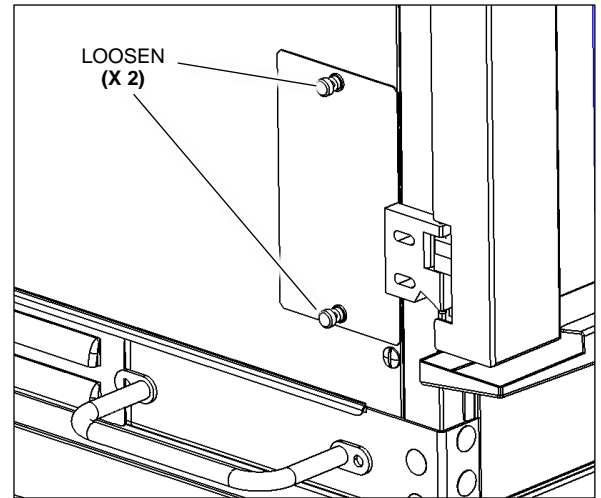

Figure 6-2
3. Remove the halogen light access panel located on the left side of the rotisserie by loosening the thumb screws (by hand or using a screwdriver) (Figure 6-2).